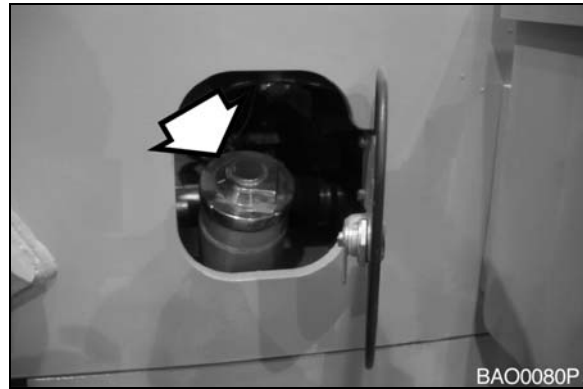

Figure 14
1. At end of each work day, fill fuel tank. Add fuel through fuel fill cap (Figure 14). When working at a temperature of 0°C (32°F) or higher, use ASTM No. 2-D or its equivalent. At temperatures below 0°C (32°F) use ASTM No. 1-D or its equivalent.